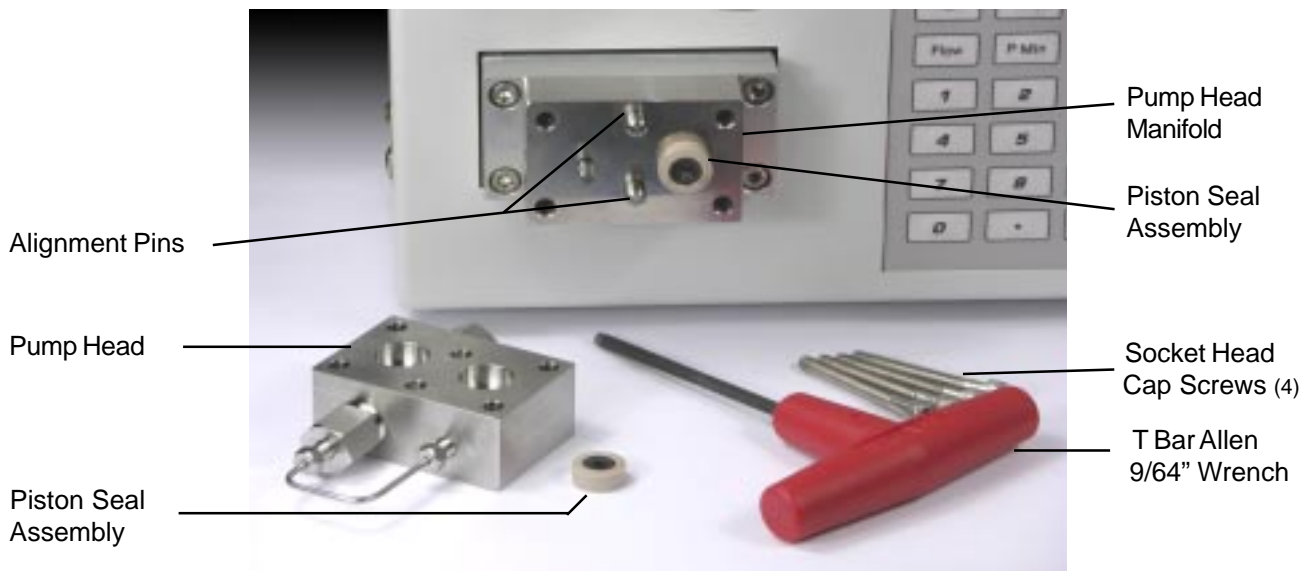

Figure 9. Piston Seal Assembly Replacement.
Using the 9/64" allen wrench with a T bar handle (provided) loosen and remove the (4) socket head cap screws which connect the pump head to the manifold and spring housing. Loosen these screws evenly. Remove and pull the pump head away from the pump, alignment pins, and manifold. This step will expose the two piston seal assemblies (**figure 9**). The seals may be grasped with the finger tips and gently pulled forward and free of the sapphire piston. Use care when pulling these seals off to avoid scratching of the sapphire piston.